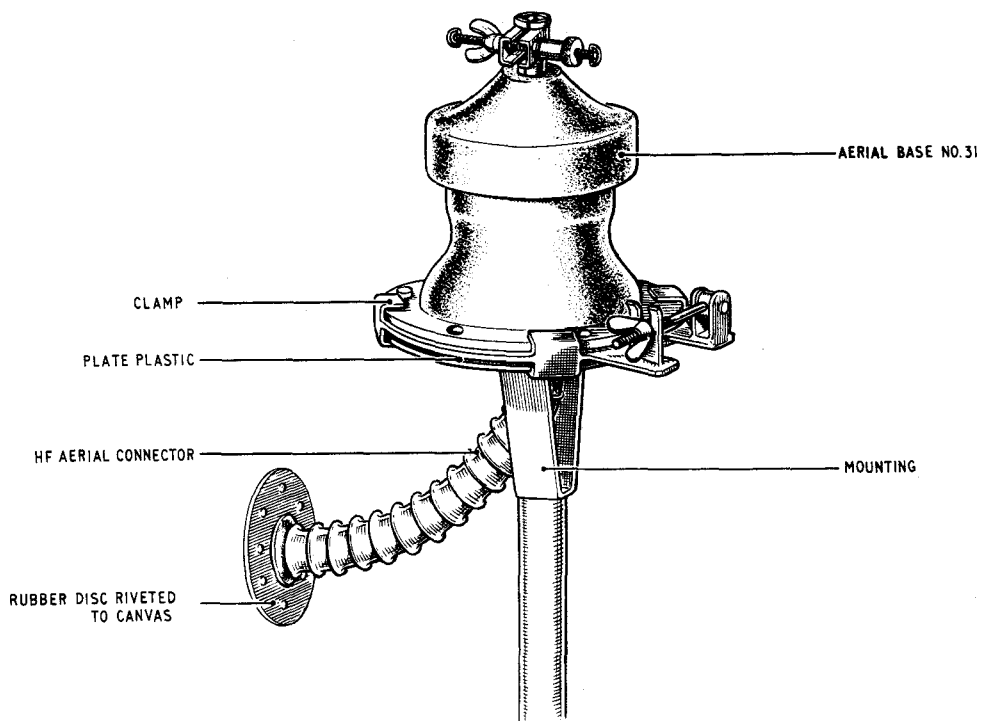

FIG. 9 HF AERIAL BRACKET AND BASE WITH CONNECTOR FITTED
- (c) Open the clamp sufficiently to allow the aerial base to be fitted on the two dowel pins. Draw the slack cable down through the centre hole in the plate plastic and assemble the aerial base on the dowel pins. Close the clamp to bring the holding lugs together so that they grip the mounting and plate underneath, and the aerial base on the top. Tighten the wing nut to secure the assembly. See fig. 9.
- (4) Fitting the insulating beads on the cable